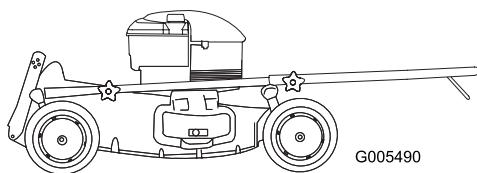

Figure 36
- Rotate the handle forward (Figure 36).